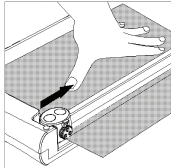

Fig. 2
5. To complete the cut, press the cutting head down and slide it along the guide rail to the other side, refer to Fig. 2.